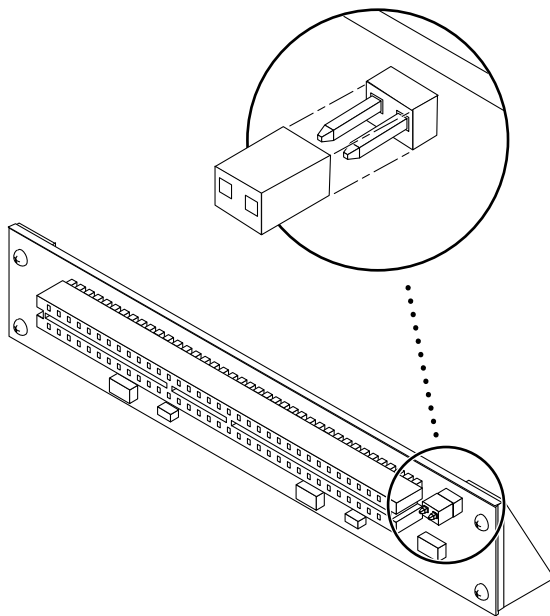

FIGURE 4-28 JTAG Test Jumper
2. Verify that the JTAG Test Jumper is removed/disabled (FIGURE 4-28).